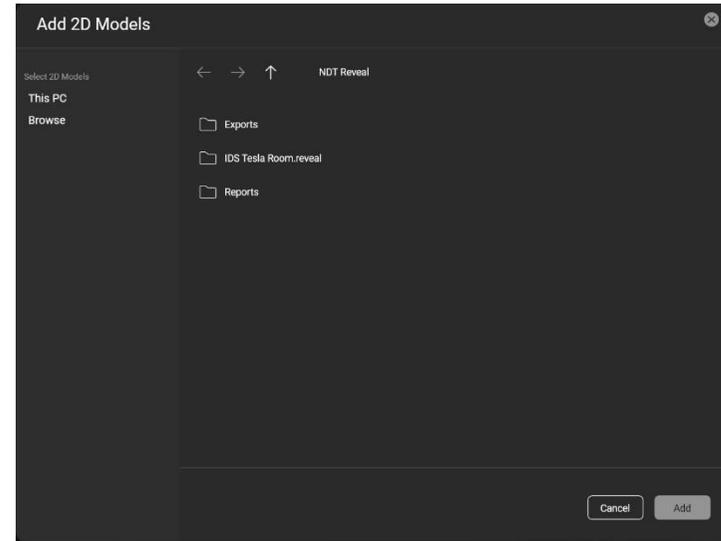

Fig. 23 Browsing through folders to Add 2D Models
- Browse through the folders location to select the 2D Model you want to add, and press “Add” (Fig. 23).